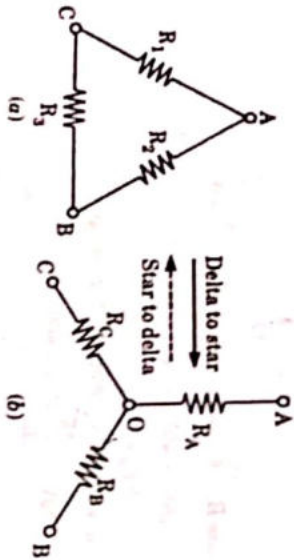

Fig. 1.13.1. Delta to star transformation.
Three resistances connected as shown in Fig. 1.13.1(a), are said to be delta connected.
2. Three resistances connected together at a common point O, as shown in Fig. 1.13.1(b) are said to be star (Y) connected.